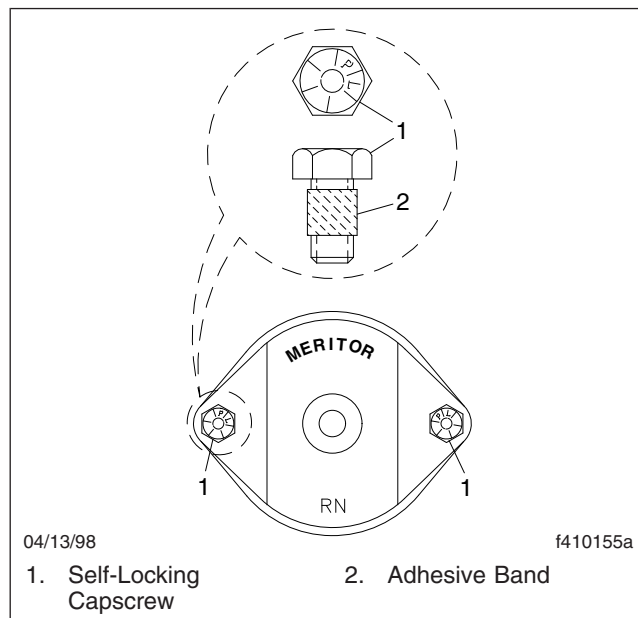

Fig. 1, Meritor U-Joint Fasteners for Bearing Caps
2. For driveline universal joints with bearing caps, tighten bearing-cap capscrews 43 lbf·ft (49 N·m). See Fig. 1, Ref. 1.